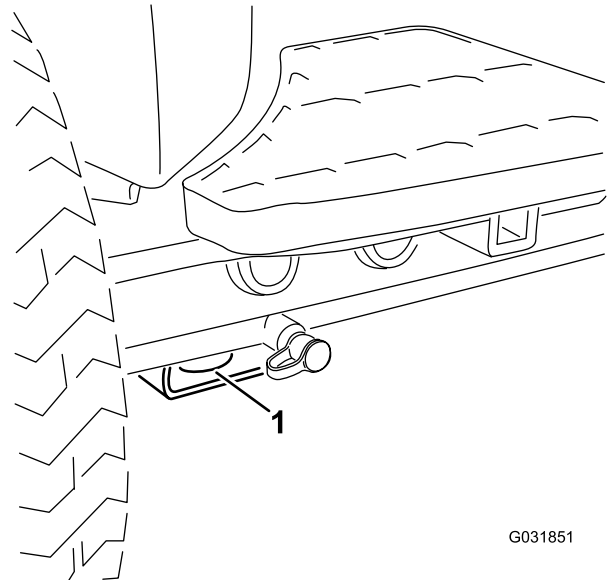

Figure 38
- Front—the hole in the rectangular pad, under the axle tube, inside each front tire (Figure 38)